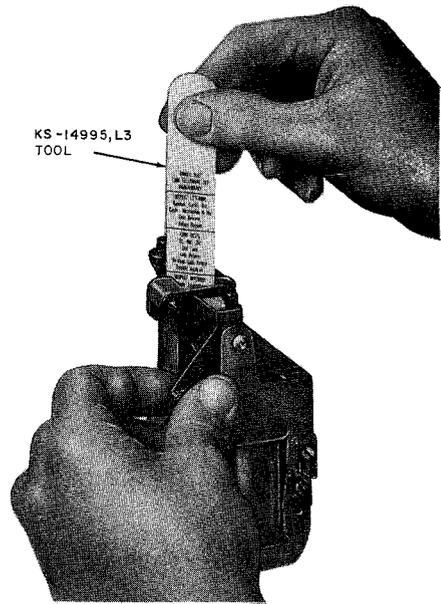
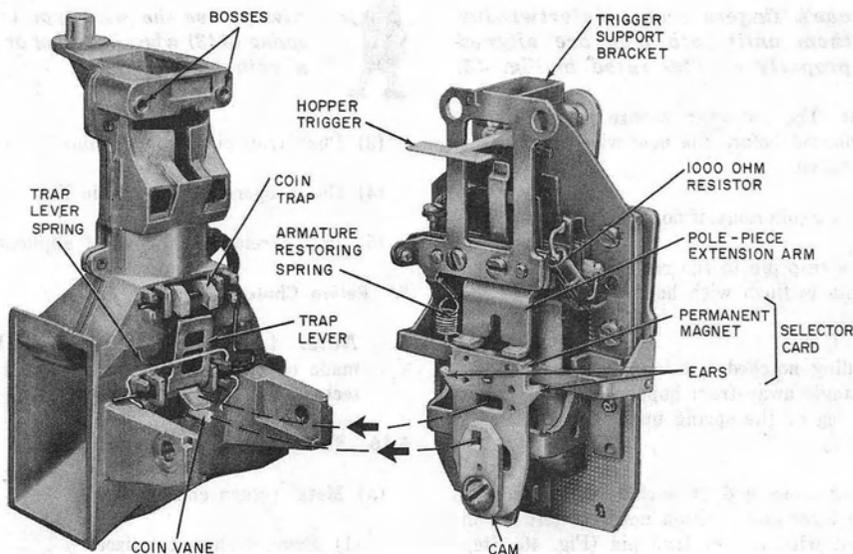

Fig. 38—Trap and Vane Release Test
Fig. 44—Coin Hopper and Rear View of Coin Relay
- (3) Remove two slotted hex head screws on sides of coin relay.
- (4) Check that the hopper trigger (Fig. 44) is in horizontal (up) position and pull off coin relay. **Do not damage hopper trigger.**
5.09 To install 1A coin relay (Fig. 44).
- (1) Manually operate the coin relay armature to its fully closed position by pushing down on selector card ear (Fig. 44).
- (2) Allow relay to slowly return to its nonoperate position.
- (3) Insert KS-14995, List 3 tool into hopper (Fig. 38). Apply firm downward pressure (approximately 1/2 pound) with tool on coin trap in hopper throat; but **DO NOT FORCE** down enough to bend or break parts.